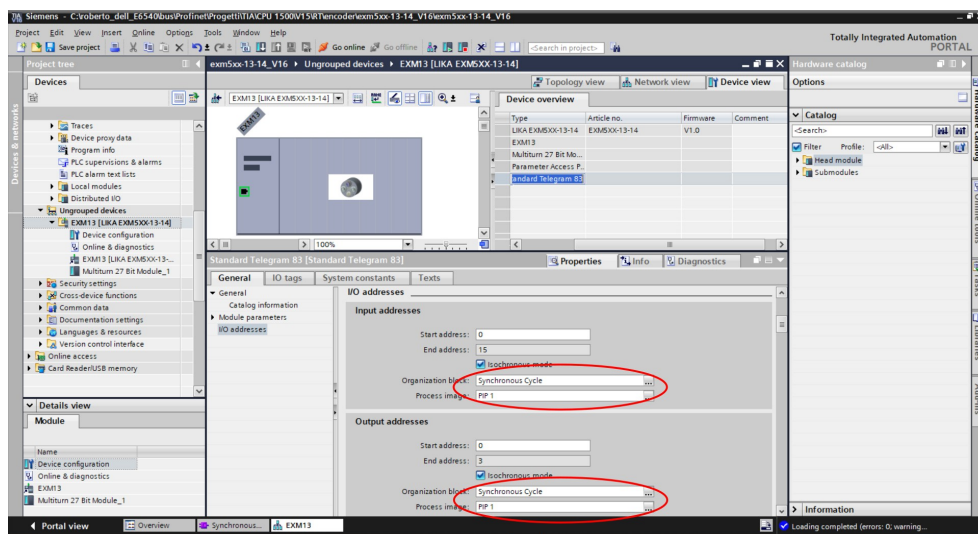

Figure 55 - I/O addresses set
18. at the end of the setting operation the standard telegram I/O addresses will be set as shown in the following Figure 55;